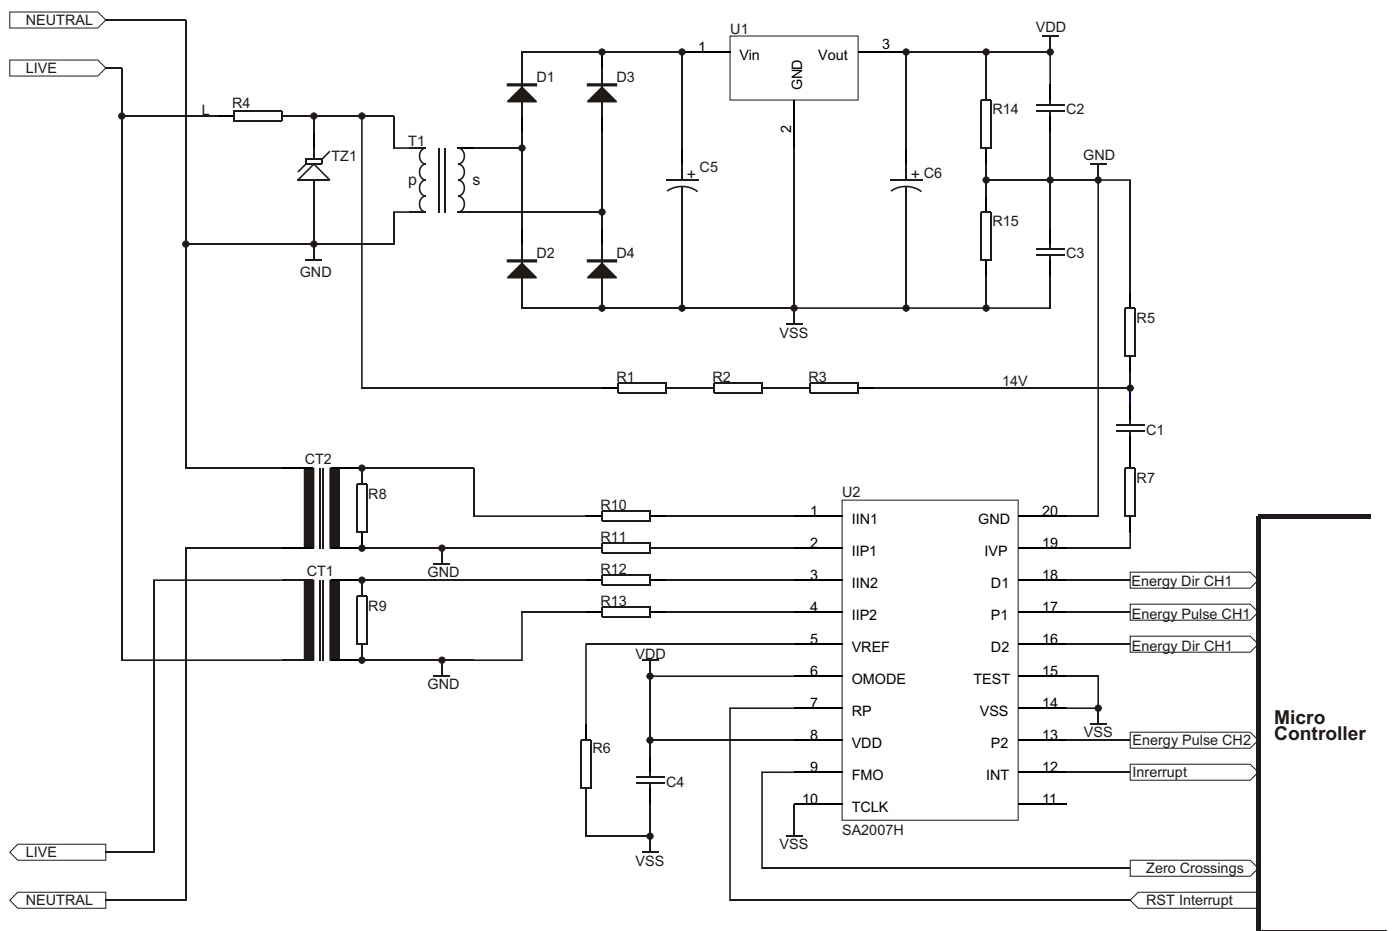

Figure 8: Application circuit showing metering section
In Figure 8, the voltage drops across the current transformers terminating resistors are converted to currents for each current sense input, by means of resistors R_{10} and R_{11} (channel 1) as well as R_{12} and R_{13} (channel 2). The current sense input saturates at an input current of $\pm 25\mu\text{A}$ peak.
The analog (metering) interface shown in figure 8, is designed for measuring 230V/60A with precision better than Class 1. The most important external components for the SA2007H integrated circuit are the current sense resistors, the voltage sense resistors and the bias setting resistor. The resistors used in the metering section should be of the same type so temperature effects are minimized.
**SA2007H****sames****Parts List for Application Circuit: Figure 8**